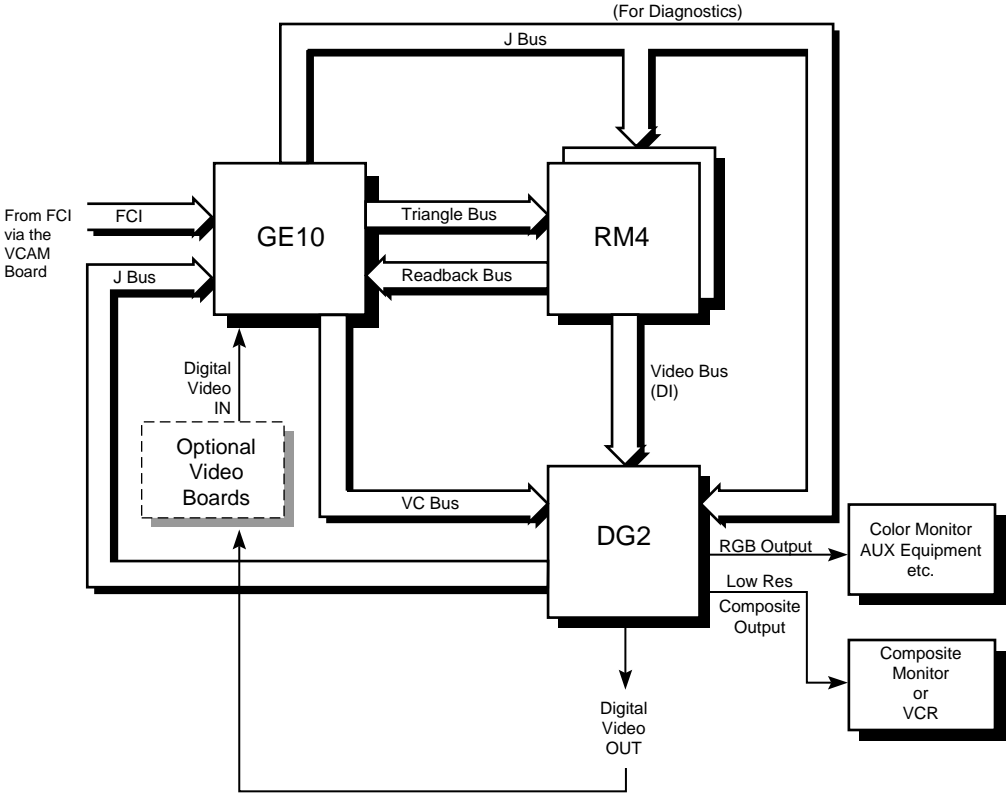

Figure 2-5 RE2/VTX Graphics Subsystem Functional Block Diagram
The GE10 communicates with the RM4(s) over the Triangle bus and with the DG2 board over the Video Control (VC) bus. The Video Control bus provides access to the color maps, window display modes, and cursor control modes. Communication between the RM4(s) and the DG2 board is over the Video bus. See Figure 2-5 for a block diagram of the RE2/VTX board set.